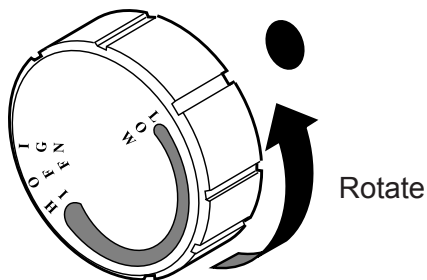

Figure 32 - Rotation of Control Knob
6. Turn the gas control knob counterclockwise  to the IGN position. See *Figure 32*. Push in and hold control knob for 5 seconds.
10. Turn control knob to any position between LOW and HIGH. The knob position controls the thermostat temperature. See *Figure 32*.